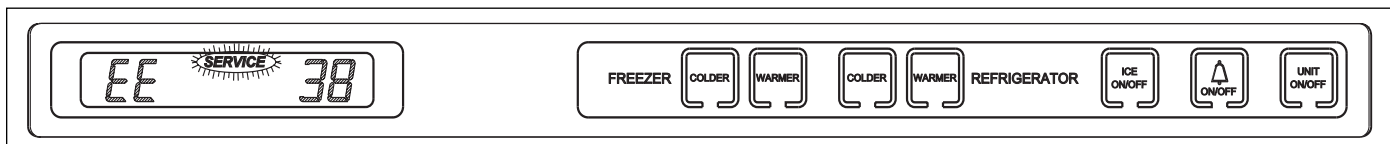

Figure 3-29. Model 700TC/I-2
- For Model 700TC/I-2, See Figures 3-29 through 3-33